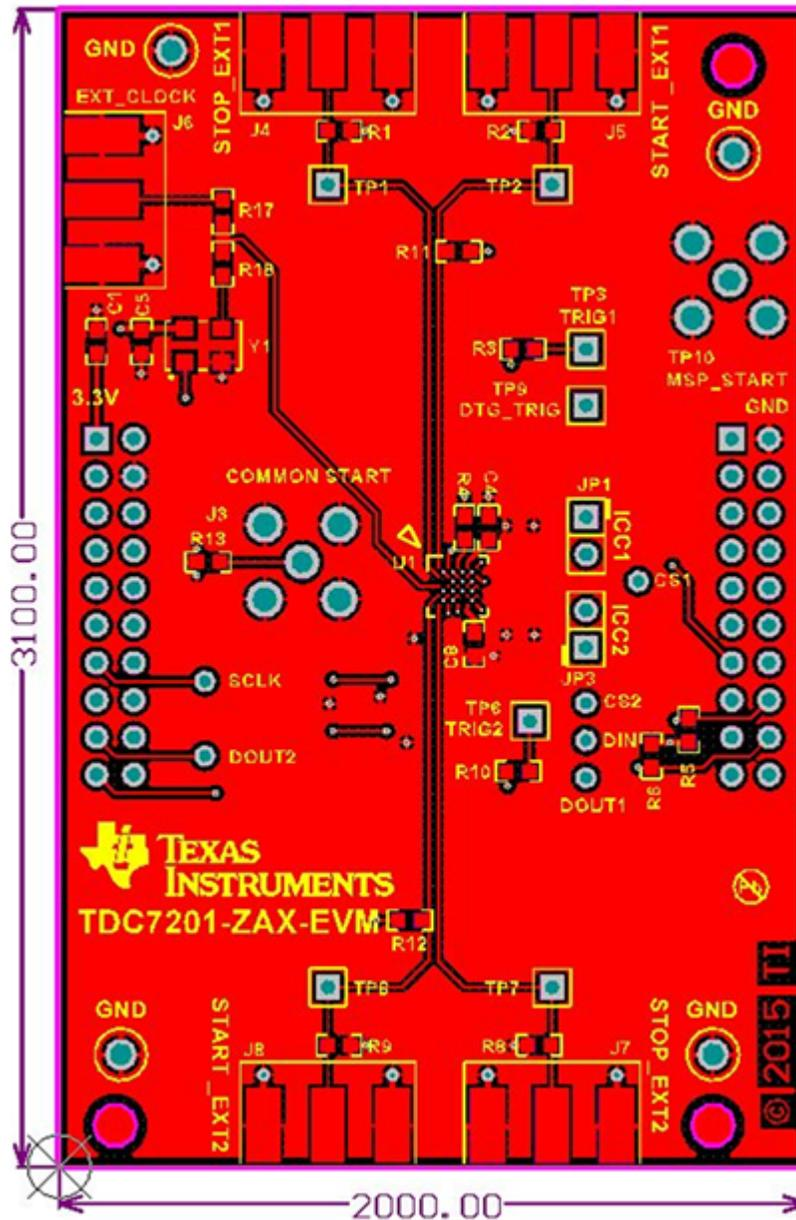

Figure 12. TDC7201EVM Top Layer
**NOTE:** The board layout is not to scale. Figure 12 thru Figure 15 are intended to show how the board is laid out; it is not intended to be used for manufacturing.